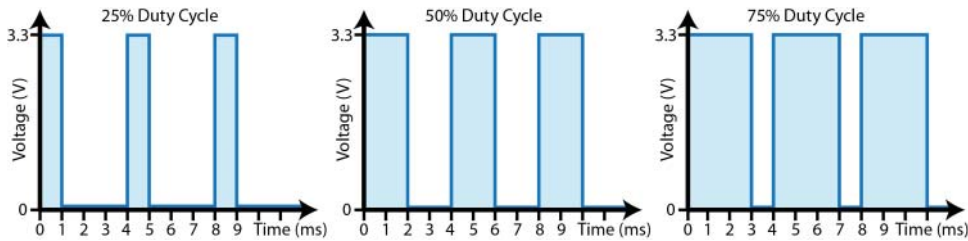

Figure 4-10: Duty cycles of pulse width modulation (PWM) signals
Figure 4-10 illustrates a PWM square wave signal at different duty cycles. The duty cycle is the percentage of time that the signal is high versus the time that the signal is low. In this example, a high is represented by a voltage of 3.3 V and
The period (T) of a repeating signal (a periodic signal) is the time it takes to complete a full cycle. In the example in Figure 4-10, the period of the signal in all three cases is 4 ms. The frequency (f) of a periodic signal describes how often a signal goes through a full cycle in a given time period. Therefore, for a signal with a period of 4 ms, it will cycle 250 times per second ($1/0.004$), which is 250 hertz (Hz). We can state that $f \text{ (Hz)} = 1/T \text{ (s)}$ or $T \text{ (s)} = 1/f \text{ (Hz)}$. Some high-end DMMs measure frequency, but generally you use an oscilloscope to measure frequency. PWM signals need to switch at a frequency to suit the device to be controlled; typically, the frequency is in the kHz range for motor control.